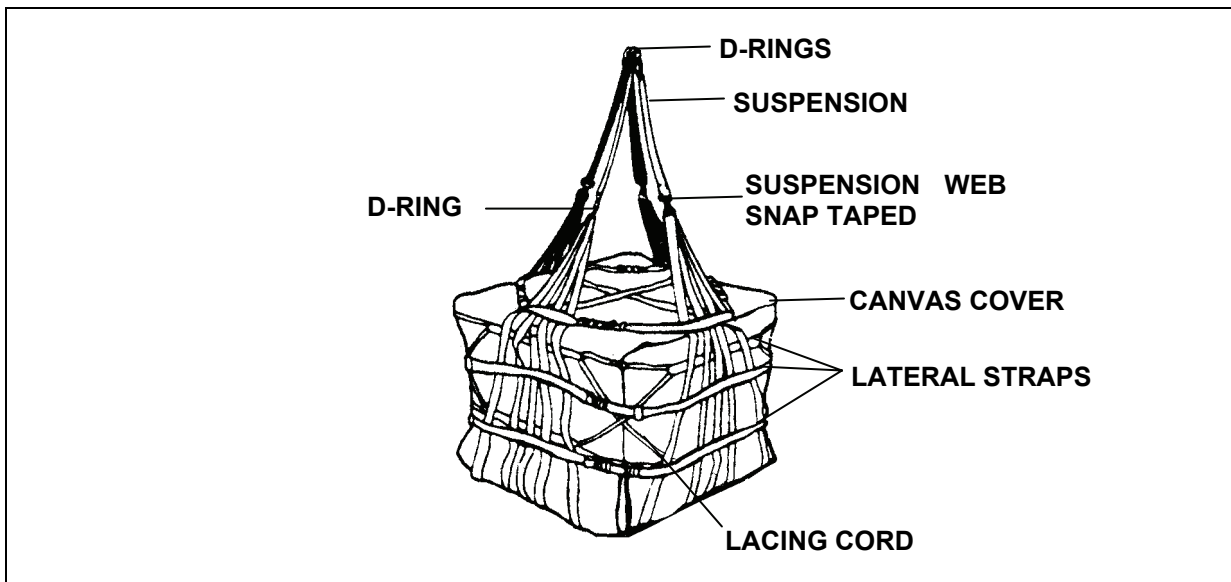
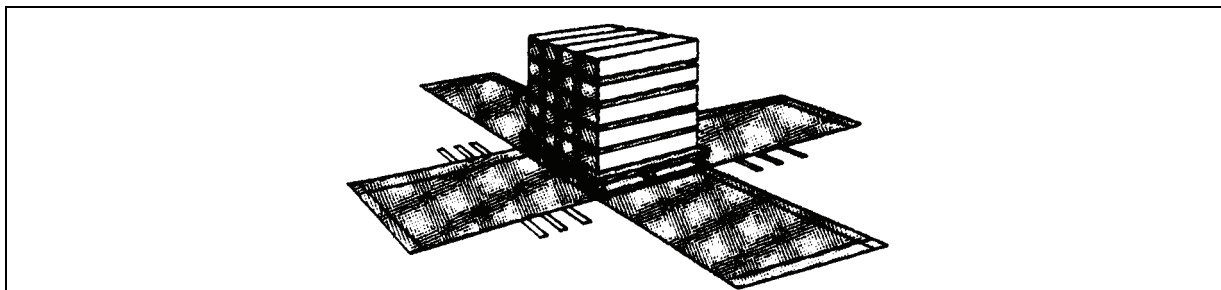

Figure 8-1. A-22 Cargo Bag
Figure 8-2. Centered Load
8-2. The A-22 cargo bag is an adjustable cotton duck cloth/nylon and nylon webbing container consisting of a sling assembly, cover, and four suspension webs (Figure 8-1). The bag is used to deliver palletized loads, loose cargo, ammunition, drums, and other general cargo. Maximum weight capacity is 2,200 pounds. The weight of the A-22 is 58 pounds. You may rig the cargo in the bag with or without the cover. Inspect the container for serviceability in accordance with Table 2-1, Preventive Maintenance Checks and Services, in TM 10-1670-298-20&P. The best way to learn about this carrying device is to rig and derig it several times. The following steps and Figures 8-2 through 8-6 explain how to rig an A-22 cargo bag:
- **Positioning the Load.** Center the load on the canvas/nylon cover (Figure 8-2). Place the load so that any sharp corners or objects are toward the center of the load if possible. Use cushioning material to protect the cover, if necessary.